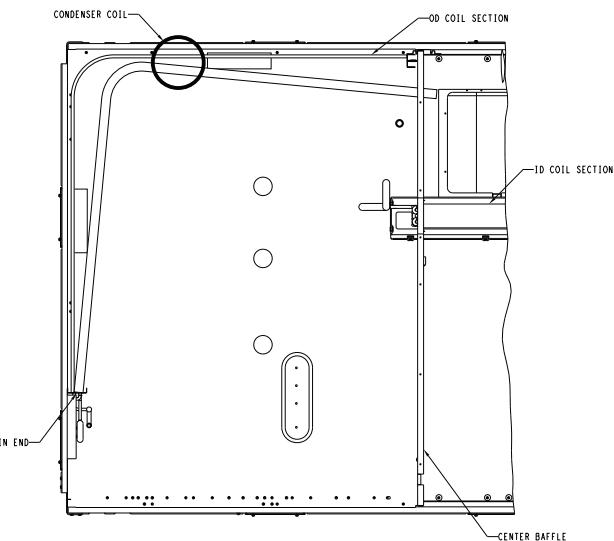

Fig. 19 – Separating Coil Sections (Top View)9-24
8. Insert a spacer (field-supplied) between the tube sheets to hold the coils apart. (See Fig. 19.)